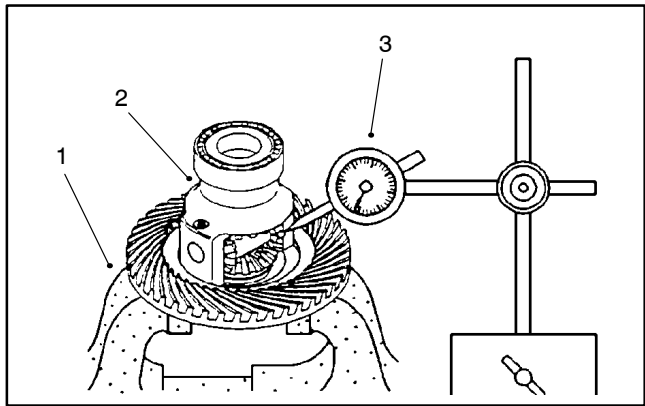

Figure 42
5. Secure the differential case in a soft jawed vise. Position a dial indicator on a tooth of the differential pinion gear. Press the pinion and side gear against the differential case and measure the pinion gear to side gear backlash (Fig. 42).